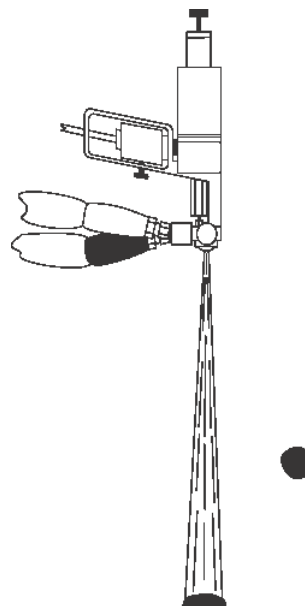

FIG. 11: Point of Valving
- c. Point of valving is reached when chemical stream mists as shown in FIG. 11.